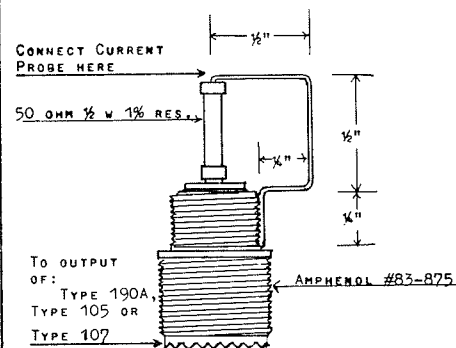

Fig. 2
A. A 1½" piece of No. 18 solid wire, formed into a question mark, in series with a small 50 Ω—1% resistor and soldered to a female uhf connector will do the trick. (See fig. 2). This test jig has a VSWR